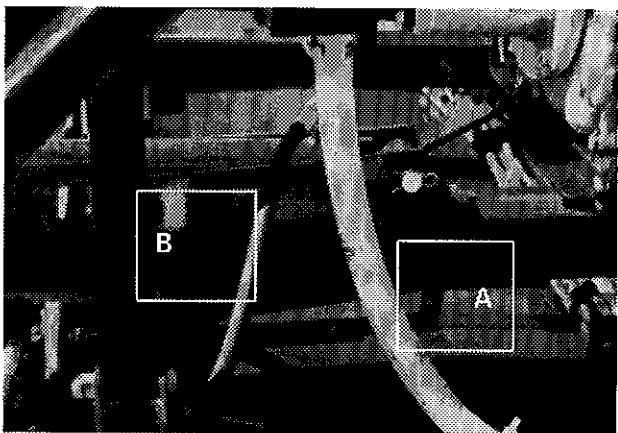

Figure 15
10) Check and if necessary, adjust the length of travel of the pusher by changing the position of lug "A" figure 15. To prevent bottoming of the piston, always keep  $\frac{1}{2}$ " to  $\frac{3}{4}$ " of travel at either end of the cylinders. The retracted position is adjusted in the same manner with lug "B" figure 15.